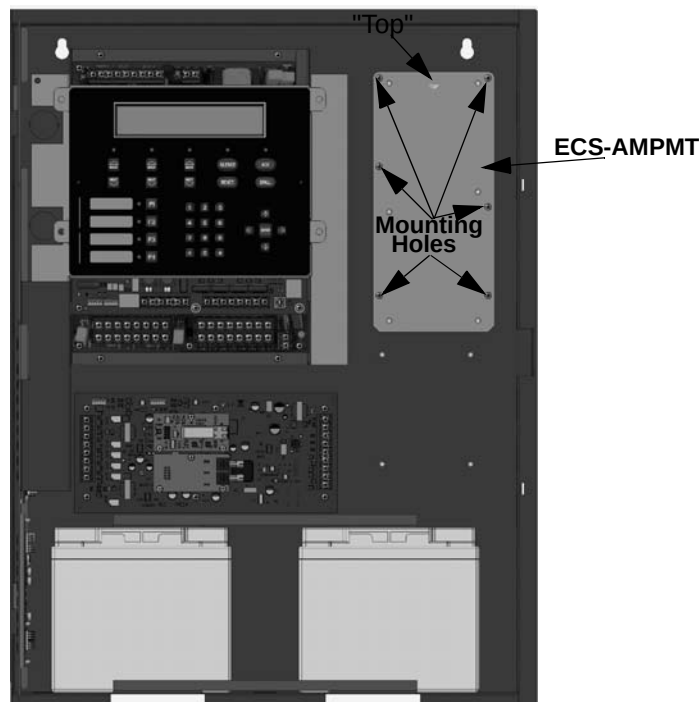
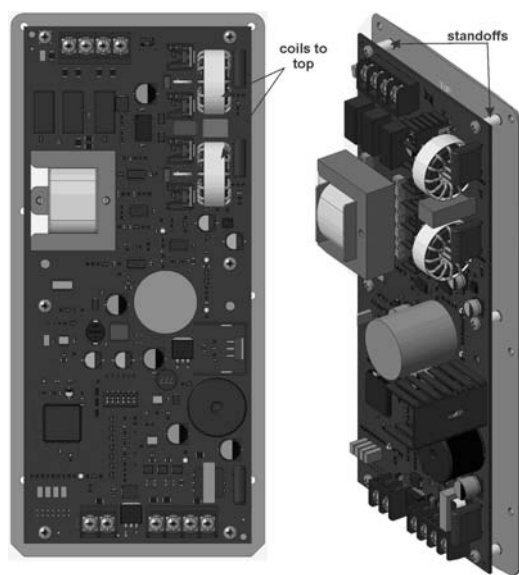

Figure 4-35 ECS-AMPMT installed in Cabinet
Figure 4-36 ECS-INT50W Installed using the ECS-AMPMT
4. Mount the ECS-AMPMT plate into the cabinet using the six supplied screws. Orientate with “Top” side up. (see Figure 4-35). Secure the ECS-INT50W onto the six standoffs, making sure the two coil parts are at the top, and on the right side of the ECS-AMPMT. See Figure 4-36 and Figure 4-36 for coil position.